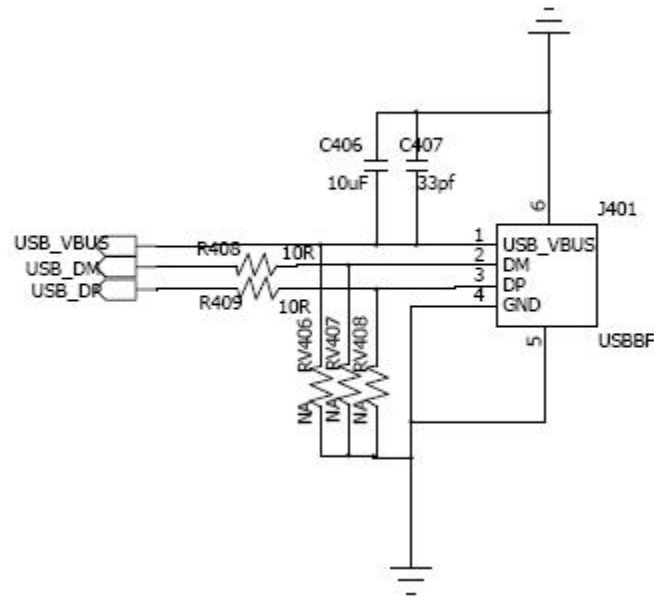

Figure 2-7 The reference circuit of USB interface
The reference circuit of USB interface is shown in figure 2-7.
- 2) For reducing the BER of USB transmission, it is recommended to add a resistor with values below 10  $\Omega$  to the DM and DP in USB interface. Just like the resistors R408 and R409 in figure 2-7.